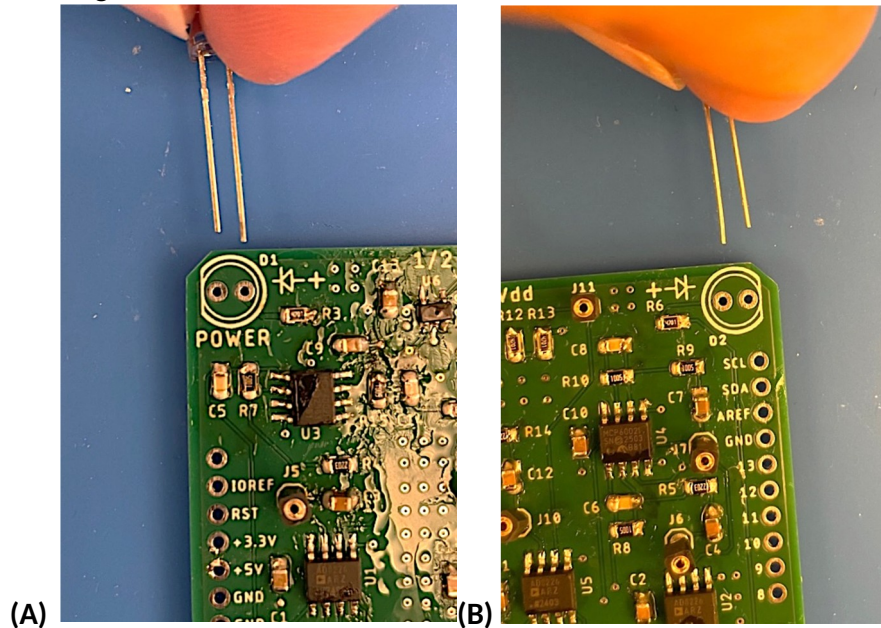

Figure 10. Orientations of the LEDs on the (A) left and (B) right sides of the board.
4. When soldering the LEDs, please consult the images a few pages (Figure 10) below.
6. When soldering the LEDs, please consult Figure 10 a few pages below.